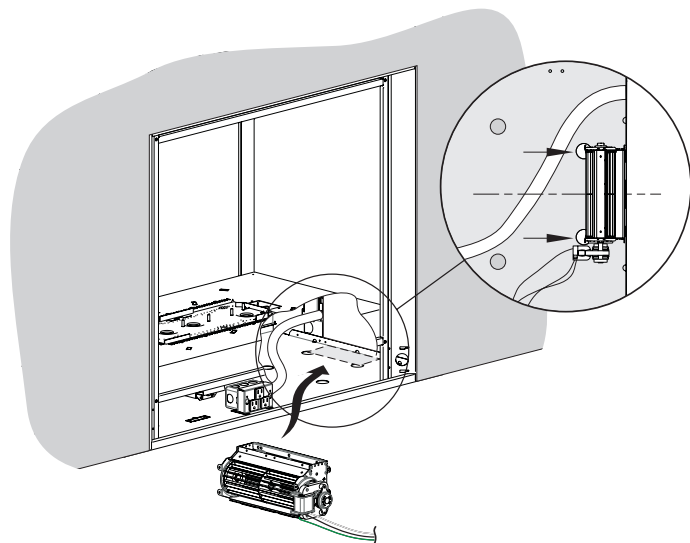

Figure 1
2. Hold the blower assembly so that the magnets are on your right side, and insert it into the fireplace through the opening to the right of the junction box. **See Figure 1.**
3. Attach the magnet-side of the blower assembly to the outer wall of the fireplace, and center it inside the fireplace using the two holes in the floor as a visual guide. **See Figure 1.**